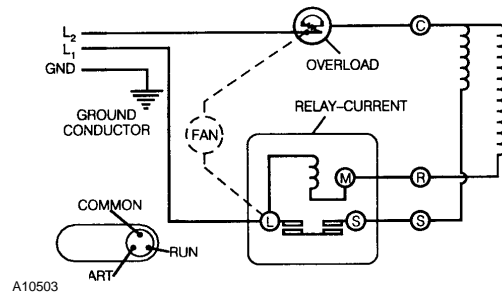

Figure 16. Schematic
3. Relay defective: Test with Multi-Meter. See Figure 16.
4. Check compressor. See Figure 16.
- Bad windings. See Figure 16.
4. Relay frozen in start position. See Figure 16.